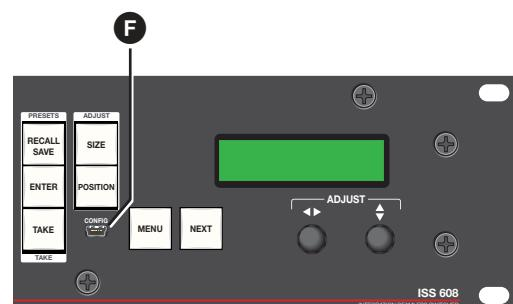
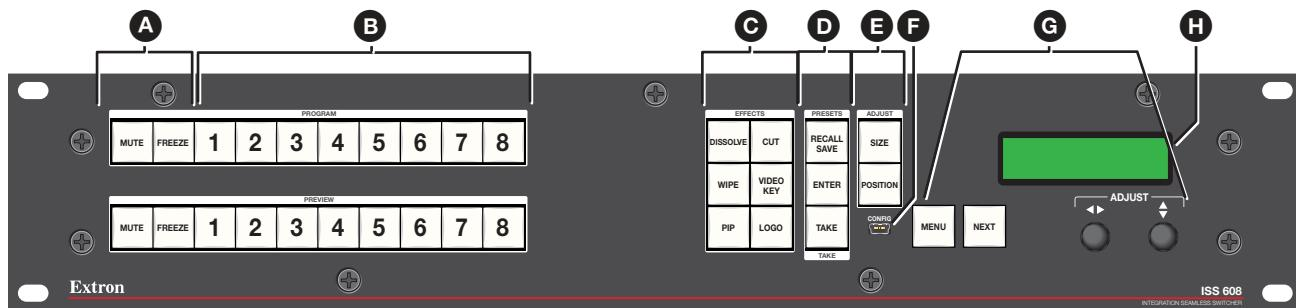

Figure 7. Front Panel Configuration Port
Figure 8. ISS 608 Front Panel
④ **USB Configuration port** (see figure 7 or figure 8 on page 11) — This USB mini-B port serves the same serial communications function as the rear panel Remote port, but is easier to access than the rear port after the switcher has been installed and cabled.
All of the switcher controls and indicators, with the exception of the Reset button, are on the front panel (see figure 8). The 16 x 2 character LCD window indicates the switcher status, menu selections, the data rate, and the status of additional system features.
C EFFECTS buttons (see figure 8 on page 11) — Press one of these **EFFECTS** buttons to select the effect to use to transition between the Preview output to the Program output (see Effect Configuration Menu on page 20).